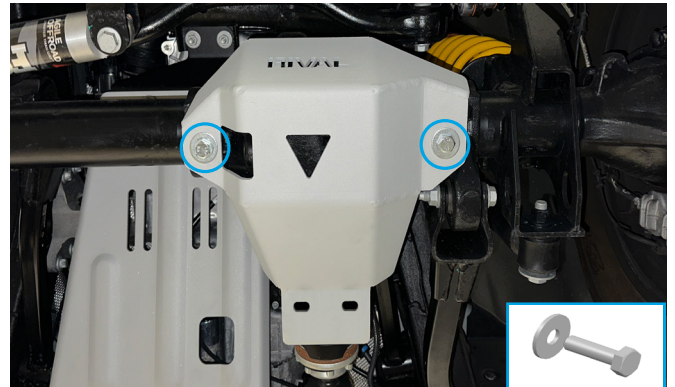

Fig. 2
2. Install the front differential skid plate (item 1) as shown in fig.2 and fix it using bolts M12x1.5x30 and penny washers 12 (items A, C).